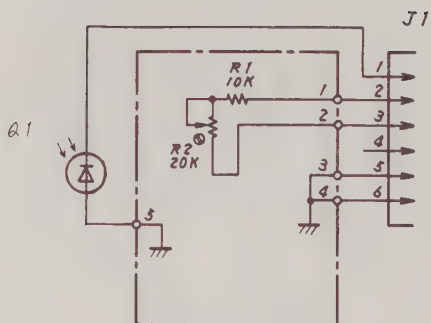

Fig. 6-14 Circuit Diagram of
- Fig. 6-14 : Circuit Diagram of MA917A Optical Power Sensor.